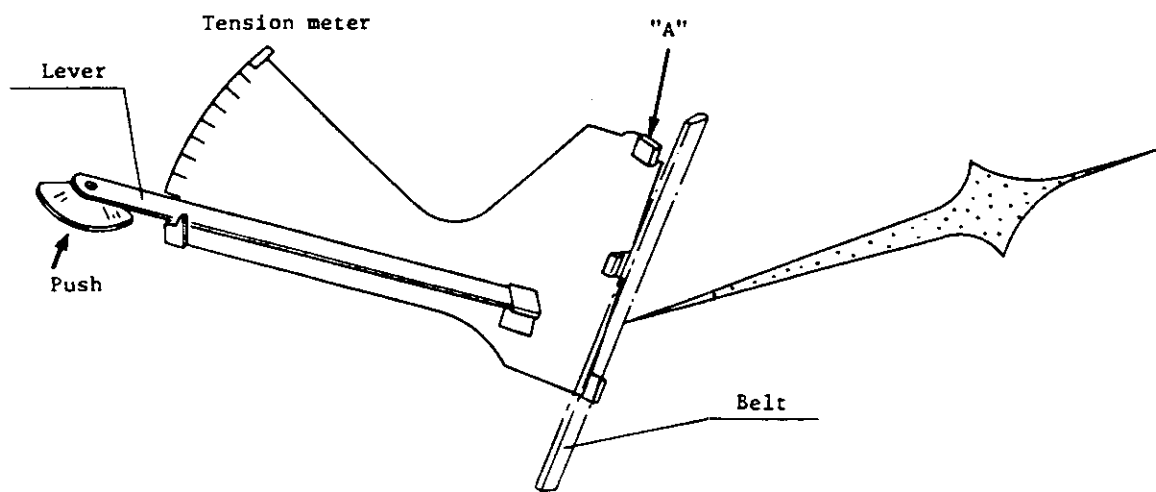

Figure K.24 Tension meter
- (3) Install the tension meter, as shown in Figure K.24. Turn the motor pulley 3 to 5 turns by hand before measuring the tension. Push up the lever with a finger as shown in Figure K.24. Snap the belt. Read the value in pounds when the belt hits the tension meter (at location "A").
- (4) Adjust the belt tension by positioning the vacuum blower or air pump.